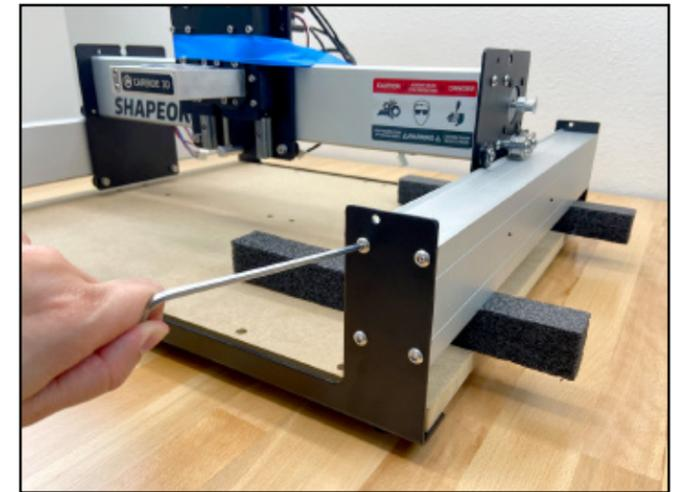

Figure 4-9
2. Use the 4mm hex key and eight (8) M6×12mm button head cap screws to secure the Y2-rail to the front and rear endplates. See **Figure 4-9**.